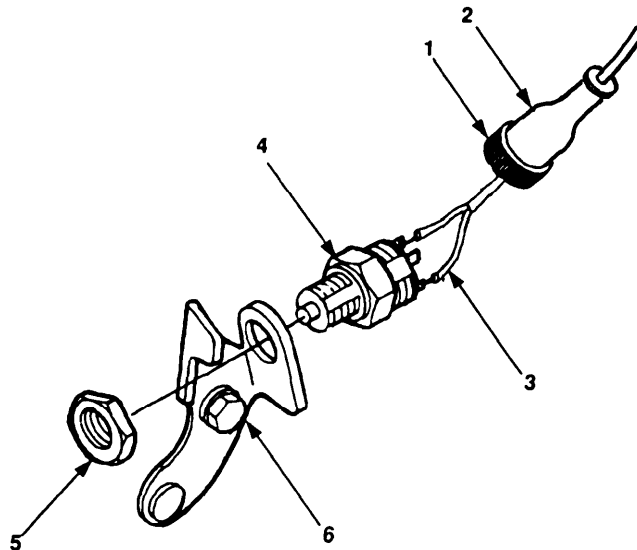

Figure 4-14. V-Belt Contact Switch Replacement.
- a. Loosen nut (figure 4-14, 1) securing boot (2), and slide up harness.
- b. Tag and disconnect wires (3) from V-belt contact switch (4).
- c. Remove nut (5) and V-belt contact switch (4) from bracket (6).